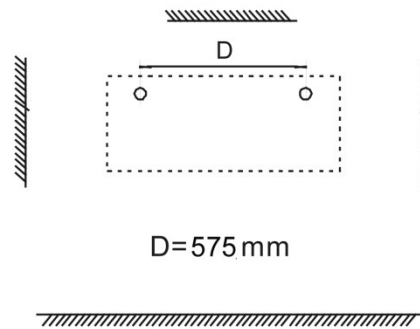

Figure 2
2. Drill two holes on the wall that are suitably sized for inserting the \varnothing 8 mm Fischer screw plugs. (figure 2) – D=575 mm